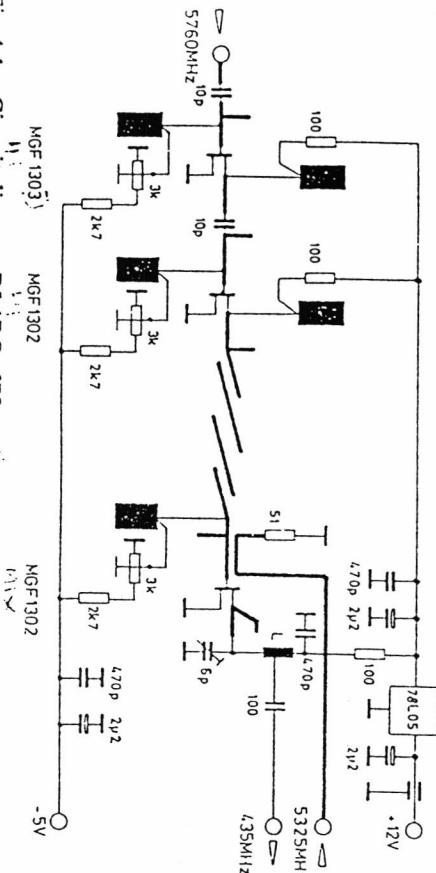

Fig.4.1 Circuit diagram DL1RQ 670
The receiver module (fig. 4.1) contains a two-stage preamplifier with transistors MGF1303 and MGF1302. Following is a two-pole stripline filter for selecting the receive frequency of 5570MHz. The mixer stage is realised with an MGF1302 transistor and in this form is already proven in the writer's 10GHz concept (5). The noise measurement of the receive module remains constant at 1.5dB from 1mW oscillator load-ing to above 10mW.